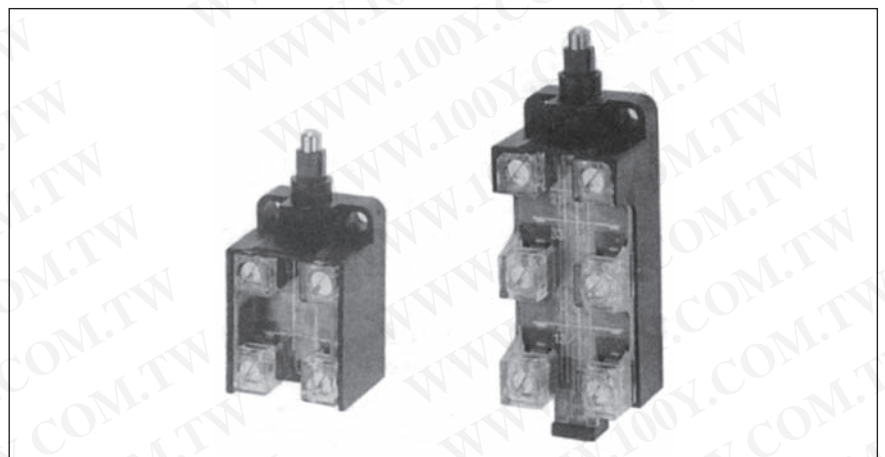

Fig. 2 Moving parallel contacts open design Terminals IP 20, chamber IP 40, 6 mm stroke
** Protected against foreign bodies of 1 mm diameter/no particular protection against water ingress. (Fig. 2)